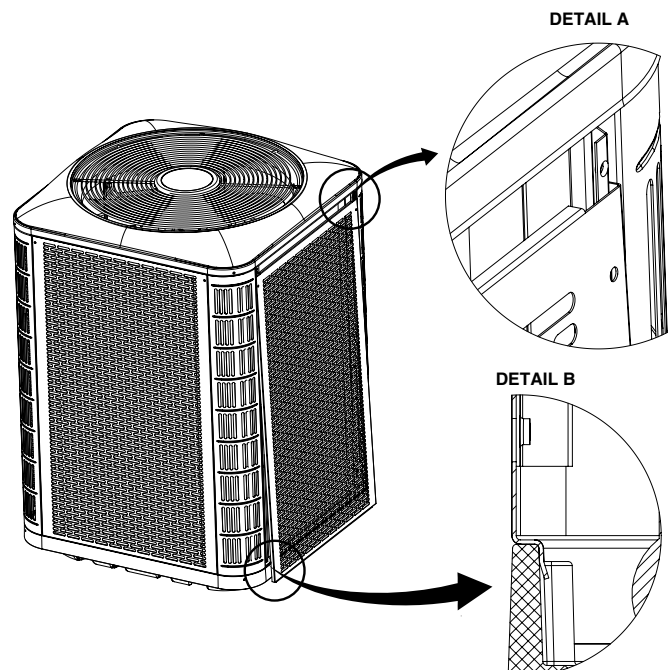

Figure 5. Panel Installation
1. Insert the top corners of side panel flanges into the corner post channels as shown in Detail A in Figure 5.